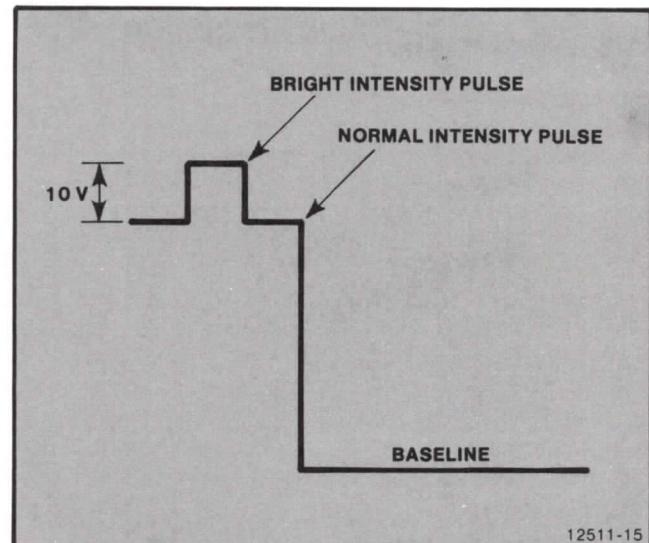

Figure 4-15. Brite Intensity Pulse.
- b. ADJUST — R415 (Brite Intensity) on the HV & Z Axis board for 10 V higher than the NORMAL INTENSITY level. See Figure 4-15.